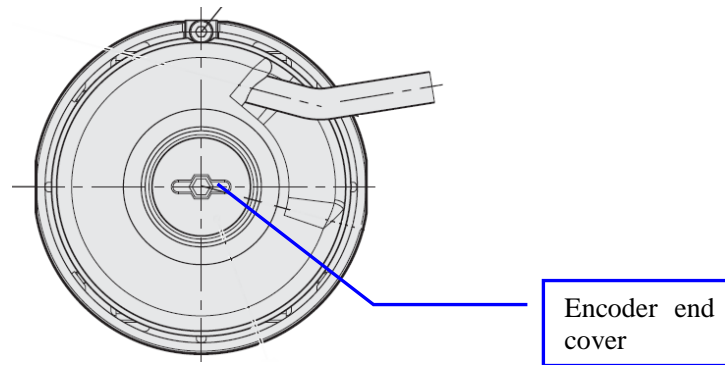

Figure 22: Remove Encoder end cover
1. Remove the encoder end cover of encoder using the hex wrench 4mm. See Figure 22.